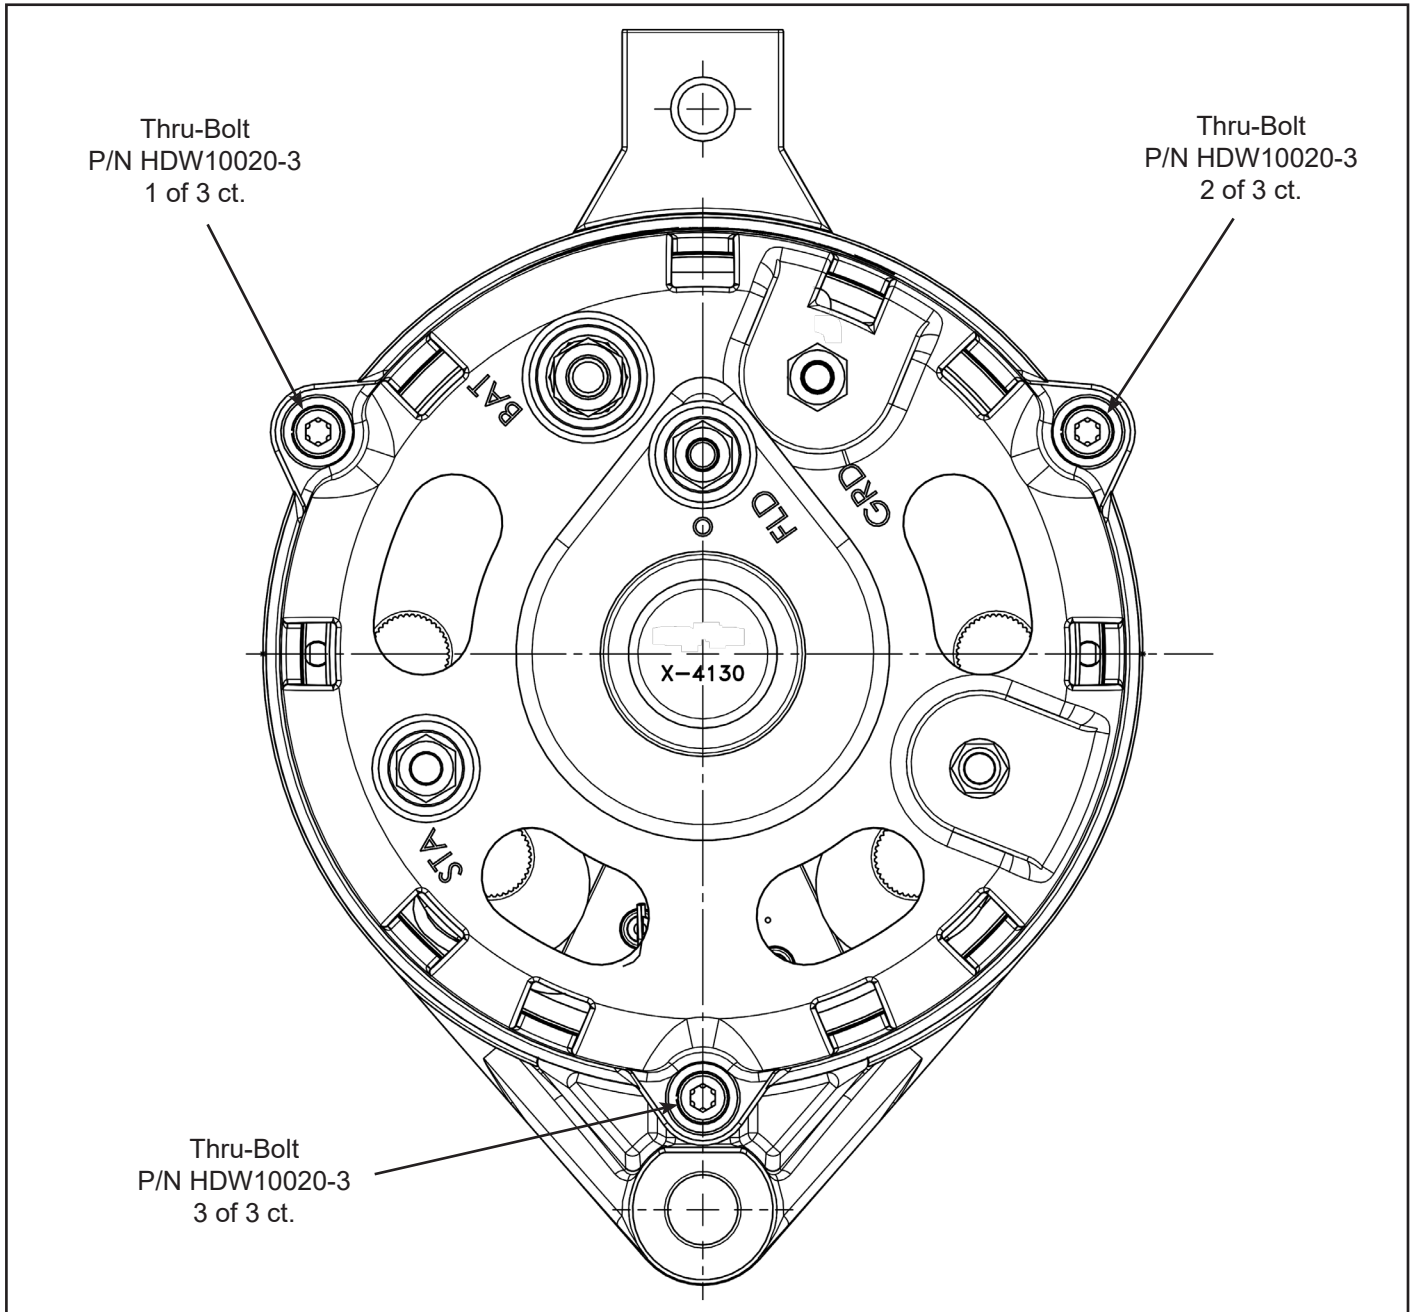

Figure 1 - Thru-Bolt Locations
(1) Option 1
- (b) Visually inspect the three (3) thru-bolts (Fig.1) for evidence of cracks, broken safety-cable/wire, and/or sheared bolt heads. If indications are present, proceed to 3.B.2 and replace the alternator prior to further flight.